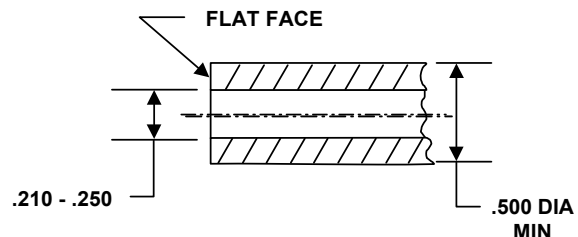

FIGURE 1: EYELET PRESSING TOOL DIMENSIONS
- c. Pull cable with correctly positioned eyelet into ferrule or outlet and fully seat using a suitable pressing tool. See Figure 1) for pressing tool dimensions.